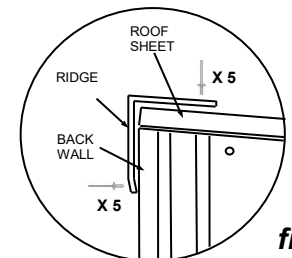

fig. 4
- Position the Roof Sheets with the back lining up with the outside edge of the back wall cladding as in (**fig.4**).
- Rivet the Ridge to roof and back wall, riveting at the ends and at each join of the roof sheets (**fig. 4**).